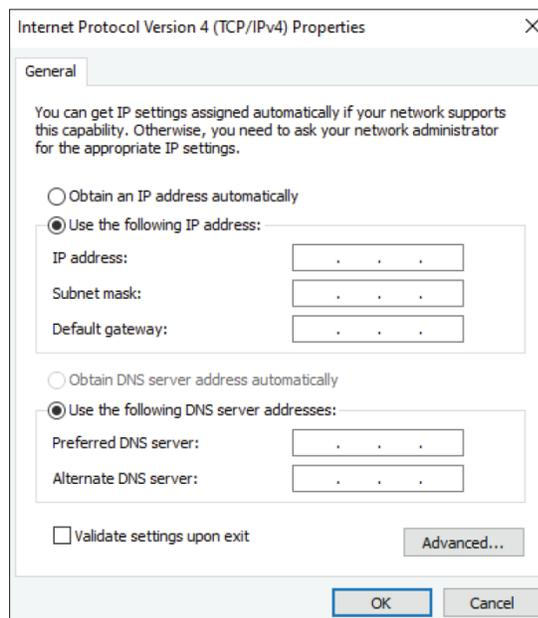

Figure 6
6. Select “Use the following IP address”. (Figure 6)